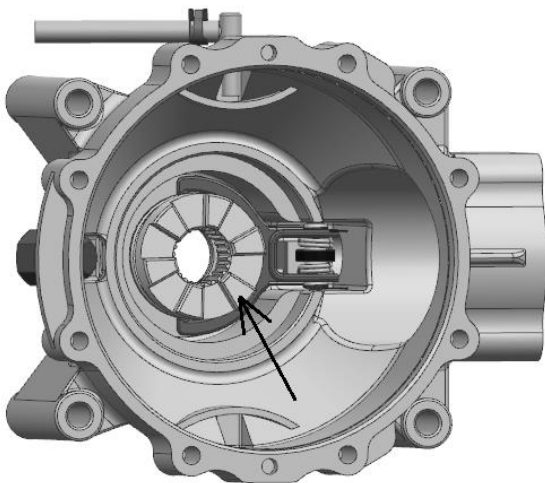

Fig 8
9.Remove the clutch gear (NO.25) from the gearcase cover. →Fig 8